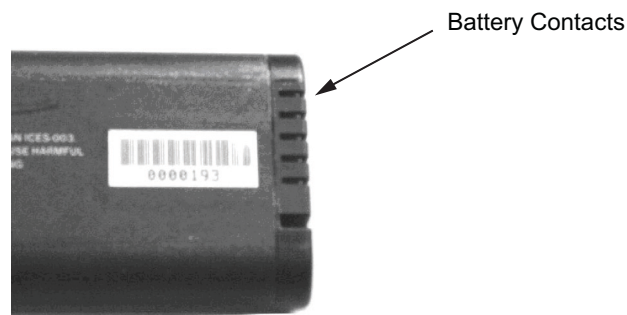

Figure 6-4. Battery Contacts
5. Replacement is the opposite of removal. Note the orientation of the battery contacts, and be sure to insert the new battery with the contacts facing the front of the instrument, as illustrated in Figure 6-4.